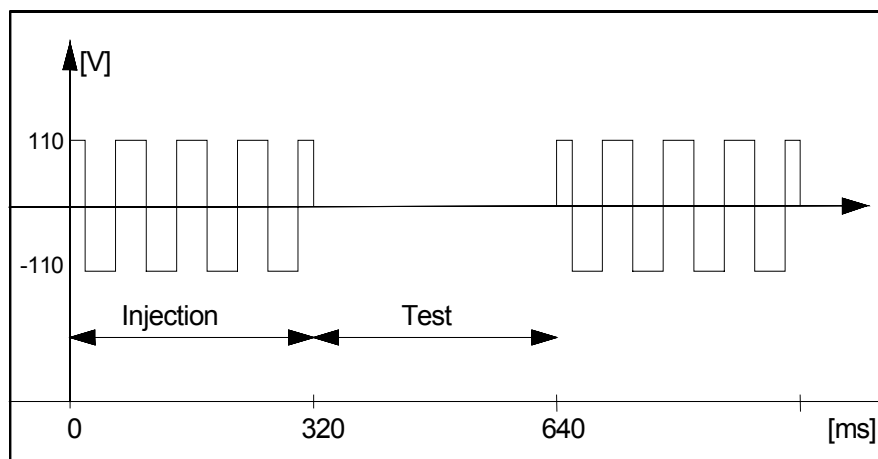

Fig. 2.21 Injection signal U_{is}
- Fig. 2.21 Injection signal
The injection voltage of 50 V is also common to both (see Fig. 2.21).